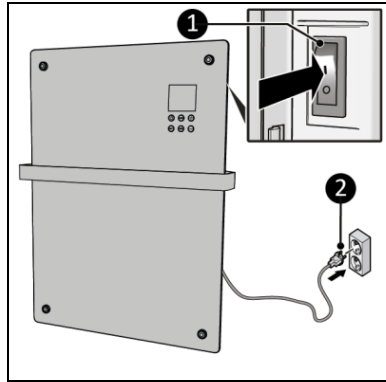

Figure 14
2. Make sure the ON/OFF switch is in the OFF position (Figure 14, pos. 1).
3. Place the power plug (Figure 14, pos. 2) into an earthed wall socket that is easily accessible. Use an earthed wall socket with a minimum power of 1200 Watt.